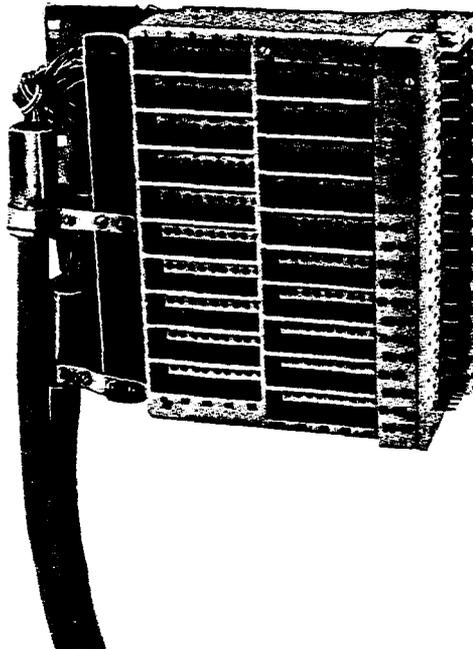

Figure 5. 310-Type Connector — Dual Stub
- 2.06** The 310- and 310M-type connectors are available with both 24- and 22-gauge (0.5 mm and 0.6 mm) stub cables, which are swivel-mounted to accommodate either top or bottom cable access to the frame. Stub cables are offered in six standard lengths [30, 50, 80, 100, 150, and 200 feet (9.14 m, 15.24 m, 24.38 m, 30.48 m, 45.72 m, and 60.95 m)]. Longer stubs are available on request. Stubless 310- and 310M-type connectors are also available for easy termination of pair-gain systems, as are dual 50-pair stubs for T1 Carrier (Figure 5). Factory pre-connectorized versions using either 710- or 711-type splicing connectors also are available upon request.